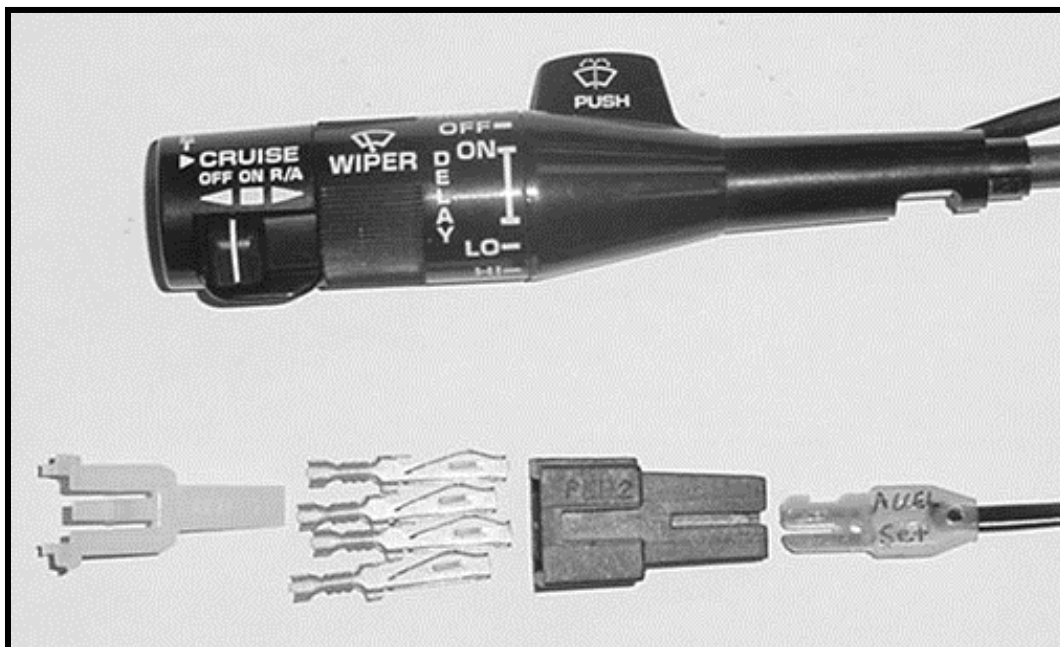

FIGURE 6.6 Cruise Control
M. Cruise Control: There are four cruise control wires in this harness. Most late model GM steering columns years 1983-1993 already have or can be retrofitted with a cruise control switch. See **Figure 6.6** for the proper connection of these wires to a factory GM cruise control switch part number 25111262. This harness kit does not include the connector needed because it has been discontinued by Delphi. The **PINK** wire is power (connector pin A, **BLUE** wire from switch). The **GRAY** wire is the *cruise control on* switch signal (connector pin B, **GREEN** wire from switch). The **BLU/WHT** wire is the *cruise control set/coast* switch signal (connector pin D, **YELLOW** wire from switch). The **GRY/BLK** wire is the *cruise control resume/accel* switch signal (connector pin C, **RED** wire from switch).